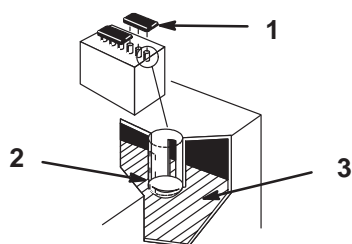

Figure 48
1. Open covers to see into the cells. The electrolyte must be up to the lower part of the tube (Fig. 48). Do not allow the electrolyte to get below the plates. (Fig. 48).
2. Lift off the filler caps (Fig. 48).
3. Slowly pour distilled water into each battery cell until the level is up to the lower part of the tube (Fig. 48).